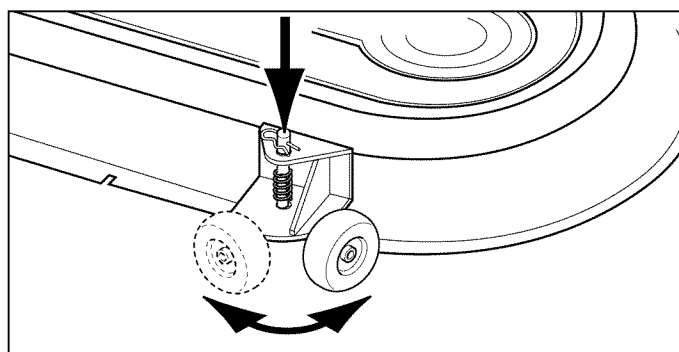

Figure 13. Gauge Wheels - 54" Models Only
1. Park the tractor, fully lower the attachment lift, turn off the PTO, turn off the engine, remove the key, and engage the parking brake. If equipped, pivot the gauge wheels into sliding position (see Figure 13).
6. If equipped, raise the attachment lift and rotate the front gauge wheels (Figure 13) into cutting position.